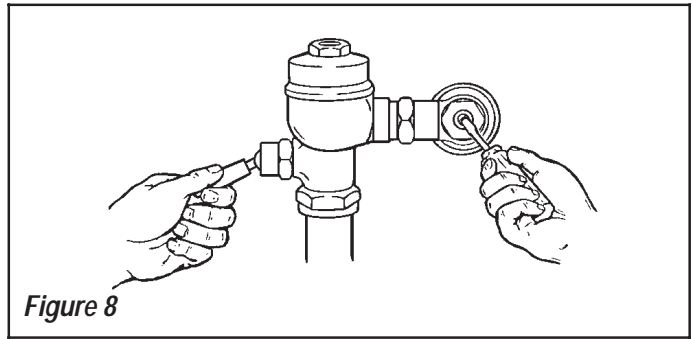

Figure 8
Step 5 - Adjust Control Stop (Figure 8)